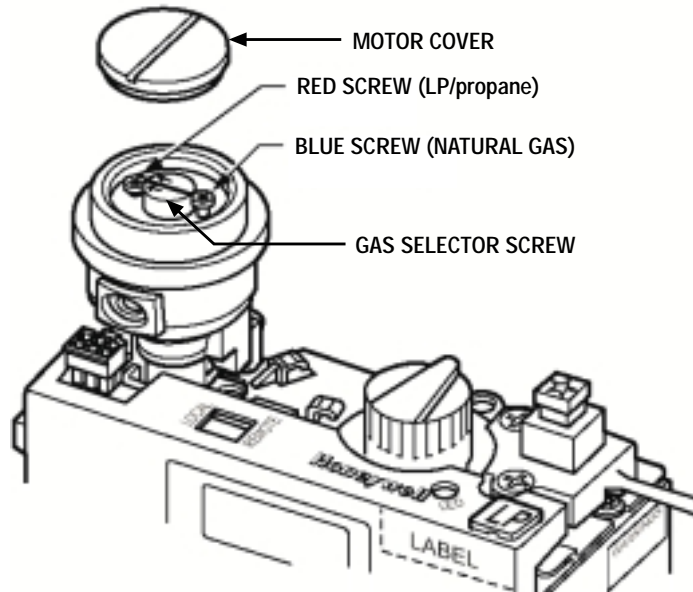

Figure 52
- a. Access the gas selector by removing the motor cover. Refer to **Figure 52**.
- b. Using a slot-type screwdriver, push the gas selector down and rotate until the arrows on it point to the correctly colored screw: **red for LP/propane gas usage or blue for natural gas**. Refer to **Figure 52**.
- d. Attach the correct gas conversion label to the gas valve (see **Figure 52**).